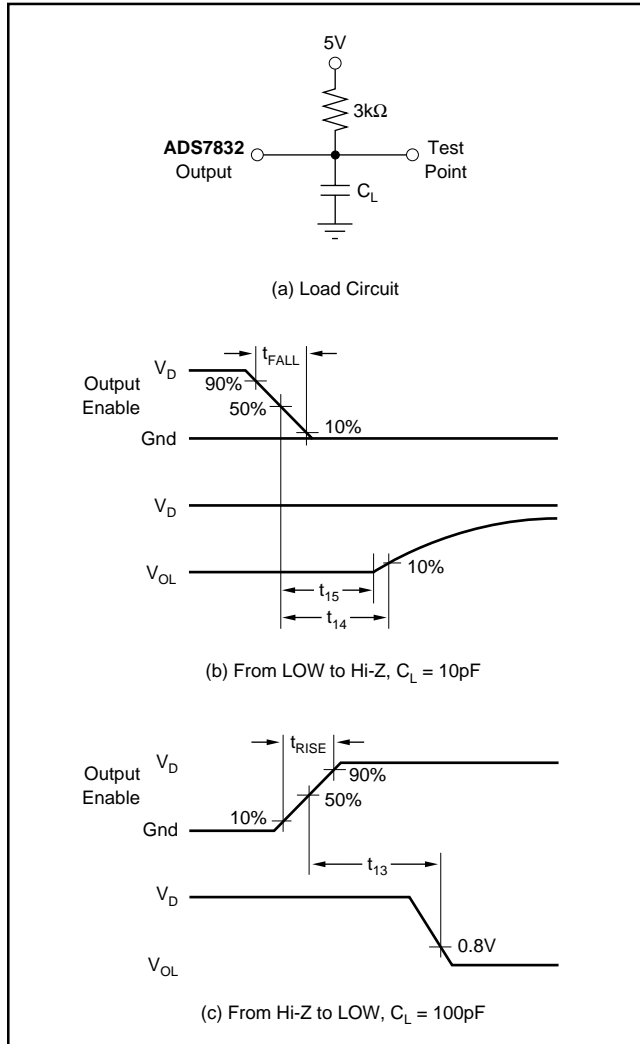

FIGURE 8. Measuring Active LOW to/from Hi-Z State.
NOTES: (1) All input control signals are specified with  $t_{\text{RISE}} = t_{\text{FALL}} = 20\text{ns}$  (10% to 90% of 5V) and timed from a voltage level of 1.6V. Data is timed from  $V_{\text{IH}}$ ,  $V_{\text{IL}}$ ,  $V_{\text{OH}}$  or  $V_{\text{OL}}$ . (2) The internal RD pulse is performed by a NOR wiring of  $\overline{\text{CS}}$  and  $\overline{\text{RD}}$ . The internal WR pulse is performed by a NOR wiring of  $\overline{\text{CS}}$  and  $\overline{\text{WR}}$ . (3) Figures 8 and 9 show the measurement circuits and pulse diagrams for testing transitions to and from Hi-Z states.